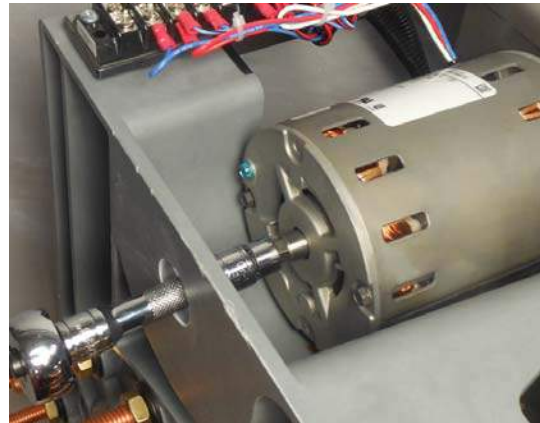

Figure 24. Rotating the motor shaft
1. Place a 3/8" socket with extension and ratchet on the output shaft of the motor; rotate the motor until the contacts and other components are aligned in the neutral position. See Figure 24.